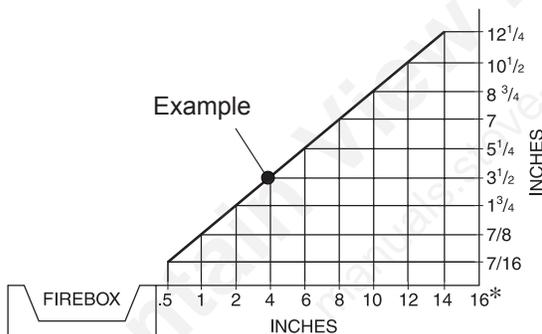

Figure 6 - Minimum Clearance for Combustible to Wall
- where curtains, furniture, clothing or other flammable objects are less than 36" from the front and 42" from the top of firebox - for side clearances see Figure 6, page 8
- A. Clearances from the side of the fireplace cabinet to any combustible material and wall should follow diagram in Figure 6.
- Example:* The face of a mantel, bookshelf, etc. is made of combustible material and protrudes 3 1/2" from the wall. This combustible material must be 4" from the side of the fireplace opening (see Figure 6).